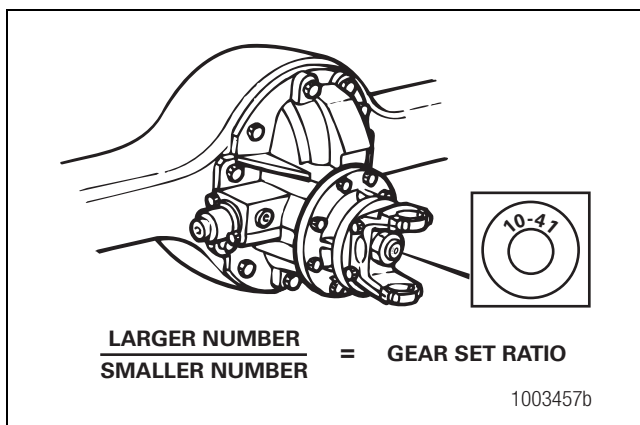

Figure 2.6
2. Identify and record the gear set teeth numbers stamped on the end of the rear axle drive pinion. Figure 2.6.
3. Calculate the gear set ratio by dividing the larger number by the smaller number. Figure 2.6.